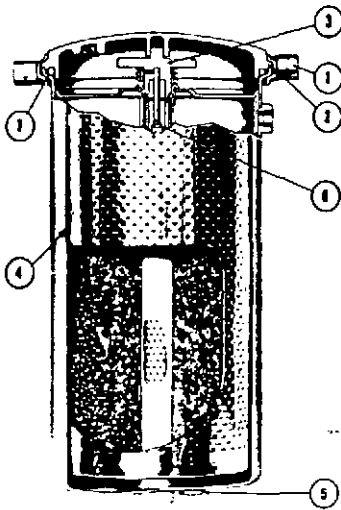

Fig. 5-9, V41908. Lubricating oil by-pass filter
1. Remove drain plug (5, Fig. 5-9) from bottom of housing and drain oil.
2. Remove clamping ring capscrew (1) and lift off cover.
3. Unscrew upper support hold-down assembly (3); lift out element (4) and hold-down assembly. Discard element.